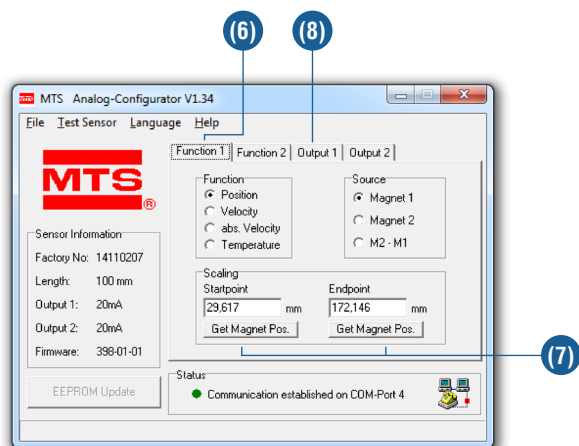

Fig. 28: Example of tab controls
- (6) Via tabs control **Function 1**, the analog sensor output can be allocated to the position or speed of the magnet. With position measurement, the measuring range with start point and end point is determined here.
- (7) The actual magnet position can be stored via buttons **Get Magnets Pos.** (Note: On sensors with 2 magnets, value storage always relates only to the first magnet).
- (8) Allocation of the relevant analog output signals to sensor functions position or speed measurement is via index card **Output 1** (fig. 28).